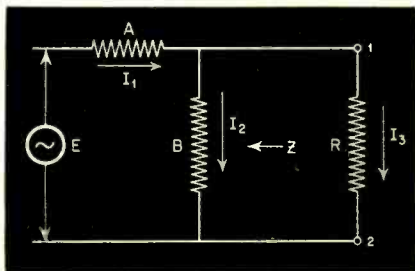
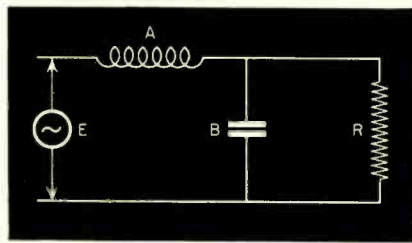

FIG. 1
FIG. 2
**Problem 1:** Determine the relations between the impedances of the circuit of Fig. 1 so that the current flowing through the load  $R$  will be independent of the value of  $R$ .
Fig. 1 then becomes Fig. 2, wherein  $A = j\omega L$  and  $B = 1/j\omega C$ . This is a circuit that has had extensive use in series arc-light systems as well as in wire-line communication systems. In the latter case the line impedance varies with weather and if power supply current for tubes in unattended repeaters, or radio receivers or transmitters, is to be supplied over the line, a constant-current circuit is necessary. Of course,  $A$  or  $B$  may be either a capacitance or an inductance so long as  $A$  and  $B$  are in resonance. Thus, if  $A = 1/j\omega C$ , then  $B$  must equal  $j\omega L$ . Thus the relation becomes  $j\omega L = 1/j\omega C$ , or:  $\omega^2 LC = 1$ .